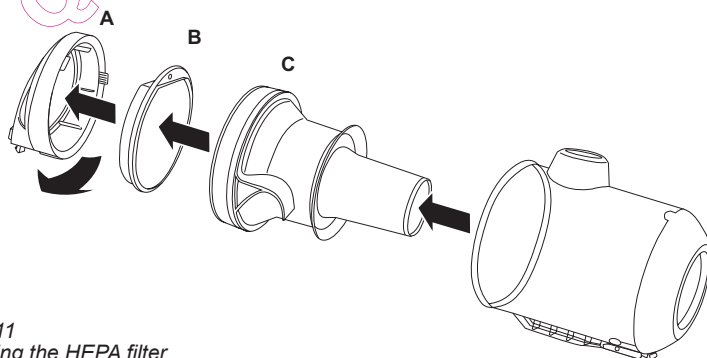

Figure 11
2. Turn the filterlid from the dust container. (A)
3. Turn the first filter from the dust container. (B)
4. Turn the second filter from the vacuum cleaner. (C)
Please note: Do not lock the second filter (C) (see figure 11) to the dust receptacle. This happens automatically when you place back and lock the lid (A).